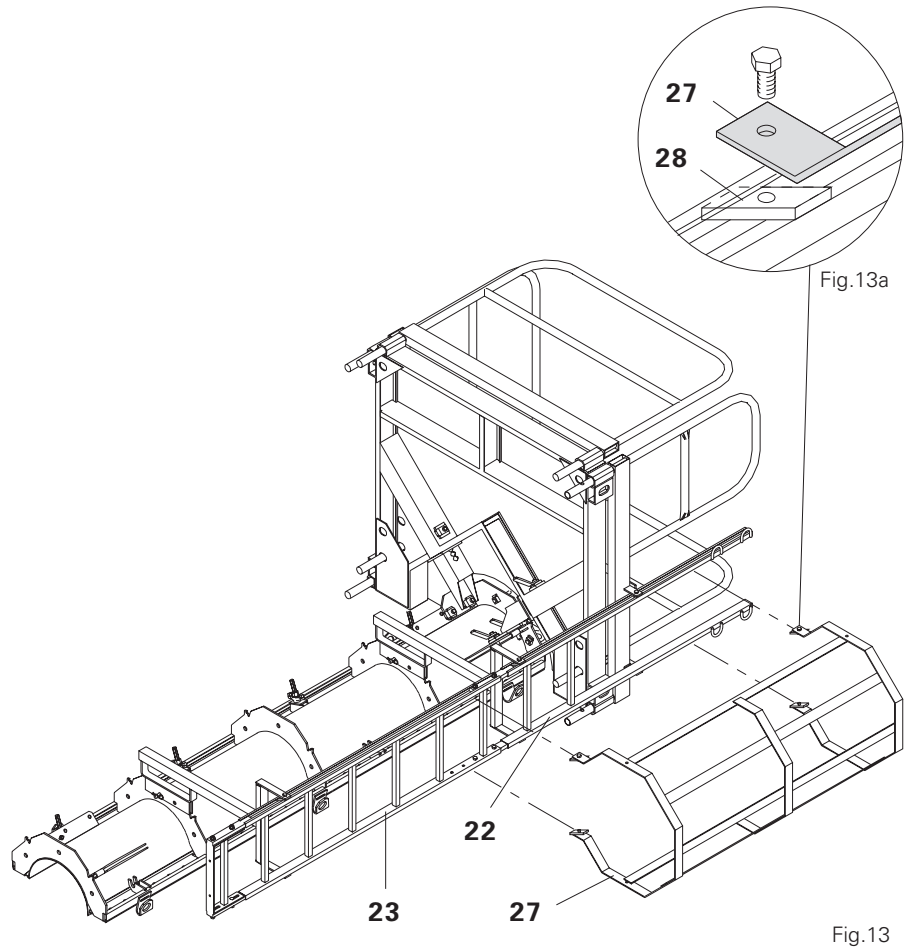

Fig.13
- Attach ladder safety cage 150 **27** with clamping plates **28** to access ladder 180/2 **22** and ladder 180/6 **23**, SW 19. Ensure ladder safety cage is mounted so that it "joins" both ladders. Fig. 13 + 13a